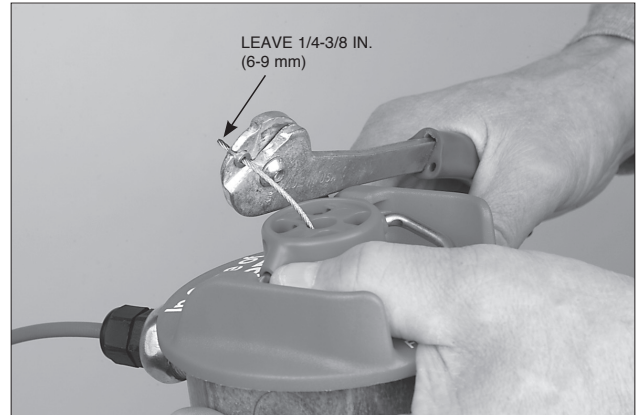

FIGURE 5-81
5. Thread the wire rope through stop sleeve and leave approximately 1/4 in. to 3/8 in. (6.4 mm to 9.5 mm) extended past sleeve. Crimp the stop sleeve twice using Crimping tool, National Telephone Supply Co. Nicopress Sleeve Tool (Stock No. 51-C-887). Verify the stop sleeve is secure on wire rope. See Figure 5-81.